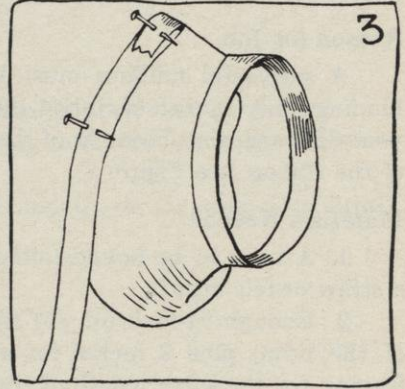

FIG. 3.
- Turn over $\frac{1}{2}$ inch toward you, so that there is no raw edge at this end and pin (see Figure 3). We are going to start to sew here.
- Draw the ribbon smooth but do not pull it, otherwise you will get your hat out of shape, and put one pin at the edge about 4 inches away from the starting point, working toward the left hand (see Figure 3).